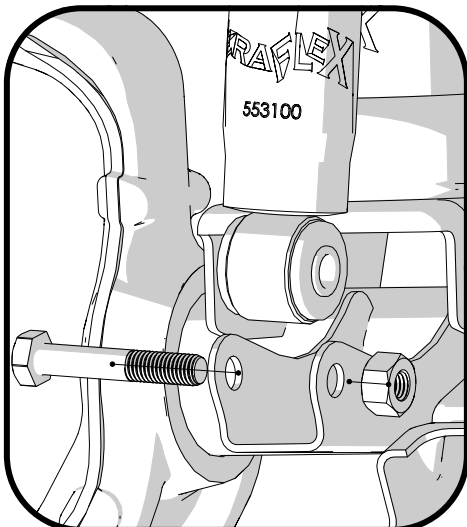

Figure 3
5. Install the bottom end of the shock into the shock bracket on the axle. Torque the bolt to 56 ft-lbs when the vehicle is sitting at ride height. (Figure 3 & 4)